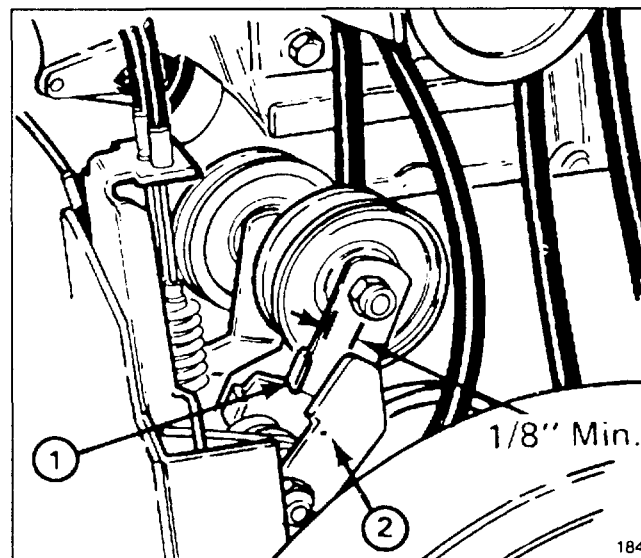

Figure 30
8. Check impeller brake arm clearance by releasing the auger/impeller lever. With the lever released, there should be more than 1/8" clearance between tab on impeller idler arm and brake arm (Fig. 30). If there is less than 1/8" clearance, belt must be replaced.